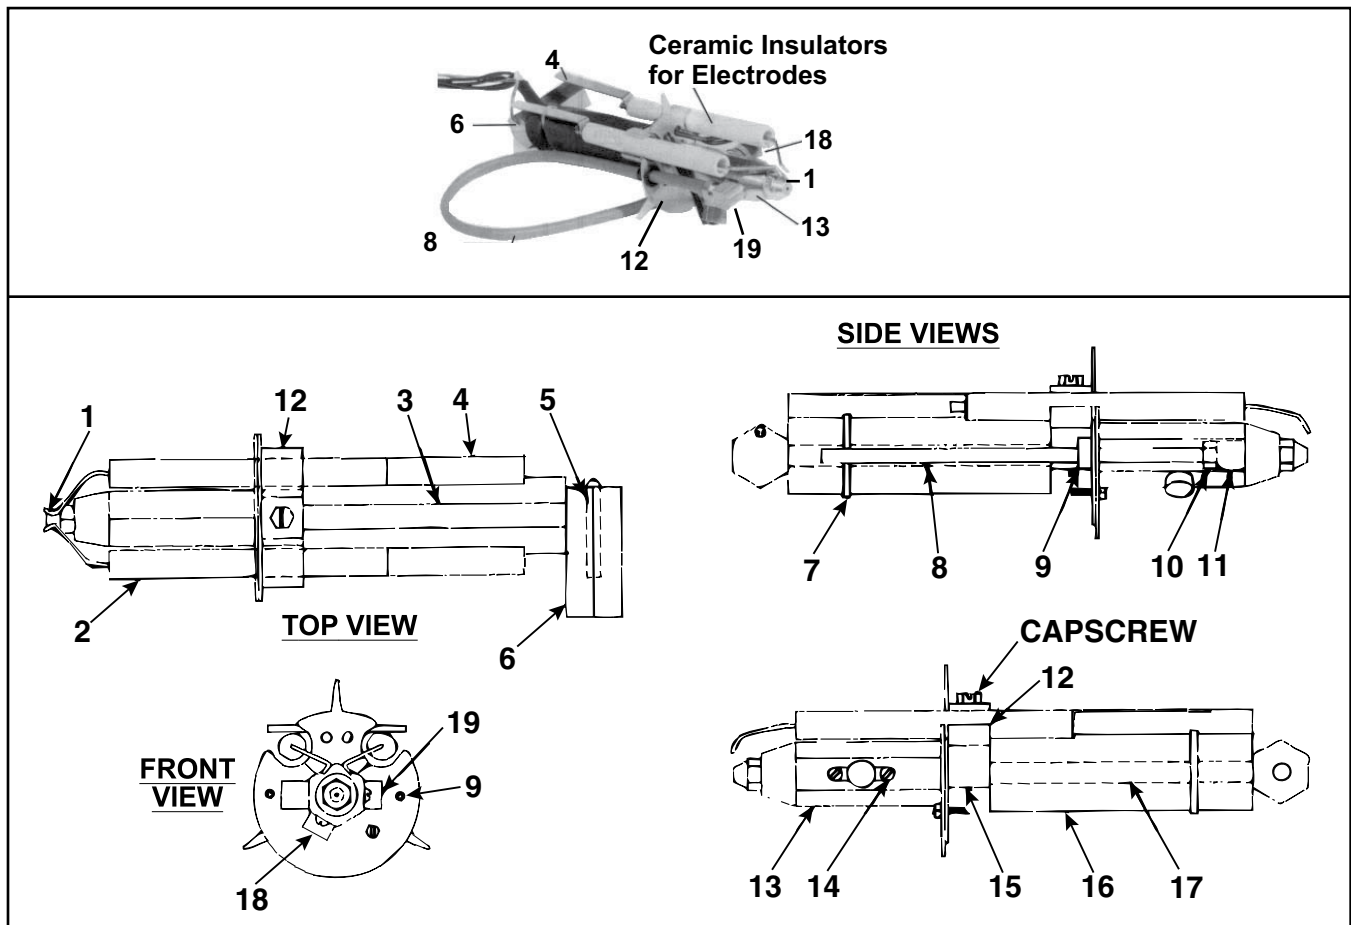

Figure 5. Nozzle/Fuel Line Assembly (Refer to Table 7)
- Nozzle/fuel line components are shown in Figure 5 and listed in Table 7.
- Remove the silicone rubber from the inlet heater block (item 6) to free the inlet-watt heater element (item 5). Use silicone rubber to retain the replacement element.
- The nozzle adapter (item 13) also contains a heater element. To replace that element: 1) remove the buss bars, 2) unscrew the inlet heater and slide the black insulation rearward, and 3) loosen the setscrew that retains the static plate and slide rearward to expose the heater element.